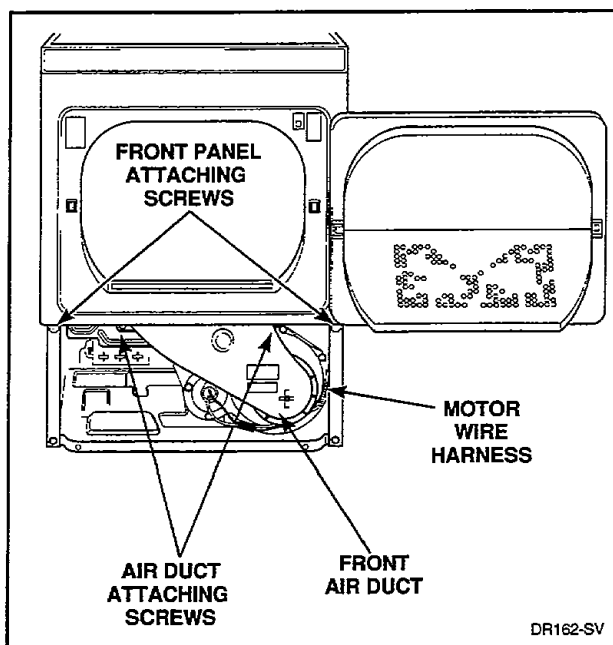
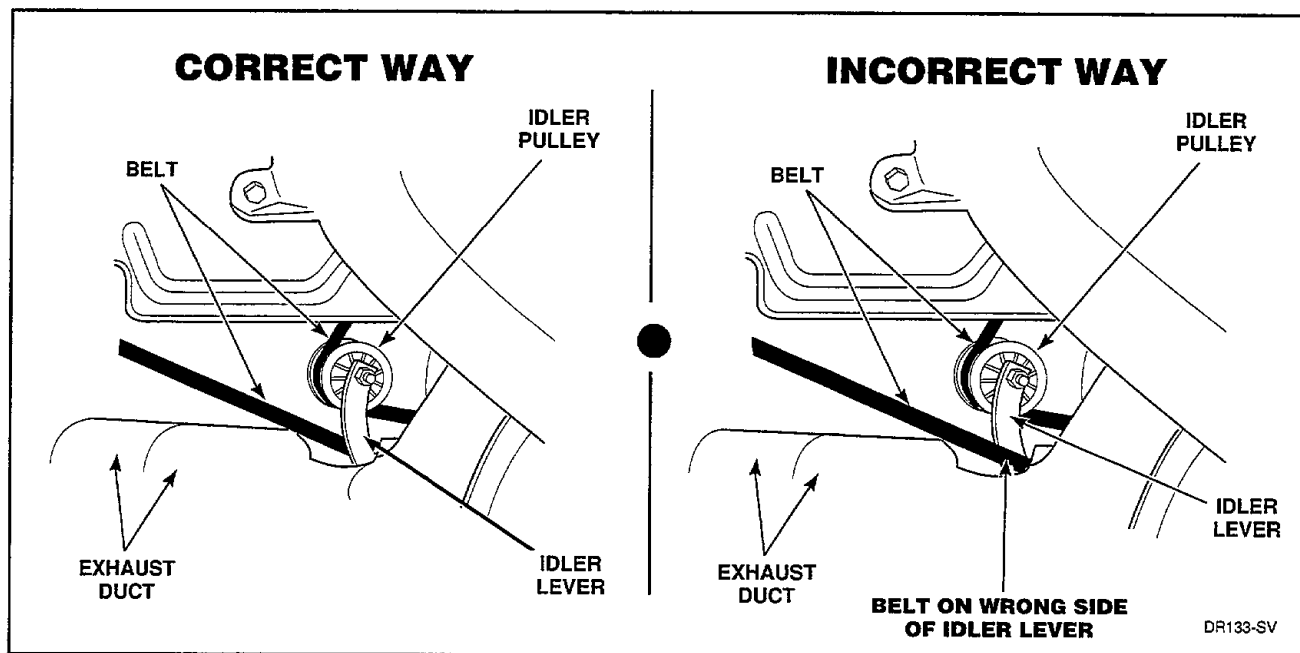

Figure 25
Figure 26
- Remove two screws holding duct to front bulkhead and remove air duct, *Figure 25*.
- d. Remove screws holding air duct to front bulkhead and remove air duct, *Figure 25*.
- f. Remove cylinder belt from idler and motor pulleys, *Figure 26*.
NOTE: When installing belt, make sure belt is properly installed on motor and idler pulleys, and is on the correct side of the idler lever, *Figure 26*. Belt must be positioned around cylinder approximately three inches ahead of the rear rib on cylinder, *Figure 35*, with the ribbed surface of the belt against the cylinder. After installing belt, manually rotate cylinder **counterclockwise** to check that belt is properly aligned.
IMPORTANT: When reinstalling motor and exhaust assembly, make sure wire harness on right side is clipped to motor mounting bracket and is routed along dryer base (between motor mounting bracket and right side of cabinet), *Figure 25*. Tab on rear of motor mounting bracket must be slid into slot in dryer base. Make sure the belt has been installed on the correct side of the idler lever, *Figure 26*.
- Remove two screws holding bottom tabs on front panel to dryer side panels, *Figure 25*. Swing bottom of front panel away from dryer far enough to disengage hold-down clips and guide lugs from cabinet top.